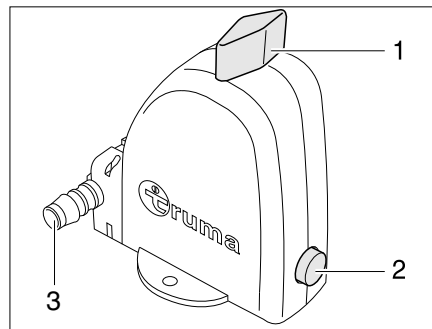

Fig. 321 Safety/drainage valve of the boiler - Operation position
The boiler is equipped with a safety/drainage valve (Fig. 321). The safety/drainage valve prevents water in the boiler from freezing, when there is frost and the heater is not switched on.
- ▷ The drainage neck (Fig. 321,3) of the safety/drainage valve has to be free of dirt (e.g. leaves, ice) at all times.
- Turn the knob (Fig. 321,1) 90° lengthwise to the safety/drainage valve. The pushbutton (Fig. 321,2) jumps out. The boiler is drained to the outside by the drainage neck (Fig. 321,3) of the safety/drainage valve.
- Turn the knob (Fig. 321,1) 90° crosswise to the safety/drainage valve.
- Push in the pushbutton (Fig. 321,2).